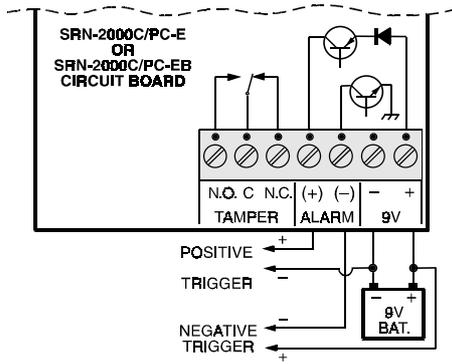

Figure 8. SRN-2000C/PC-E & -EB Wiring
- (2) Snap the battery clip onto a 9 Volt alkaline or lithium battery. The battery can be located in either the **SRN-2000C/PC** housing or the SRC-203AV back box.
- (3) Connect either the **N.C.** or **N.O. ALARM** contacts to the RF transmitter, according to the trigger signal required for transmitter activation.
- (4) Connect the anti-tamper terminals to the RF transmitter tamper input terminals (if available).
- (5) Seal all openings in the base with RTV to prevent insects and air currents from entering the unit.
B. Models SRN-2000C/PC-E and -EB (see Figure 8)
- (2) Snap the battery clip onto a 9 Volt alkaline or lithium battery. The battery can be located in either the detector housing or the SRC-203AV back box.
- (3) The **SRN-2000C/PC-E** and **-EB** have two open collector transistor alarm outputs (see Fig. 8). The **ALARM (-)** terminal provides switched negative voltage on alarm and can be used to trigger transmitters activated by a negative pulse. The **Alarm (+)** terminal provides switched positive voltage on alarm and can be used to trigger transmitters activated by a positive pulse. Connect the transmitter trigger input to either: **ALARM (+)** and **9V (-)** terminals (positive trigger), or **ALARM (-)** and **9V (+)** terminals (negative trigger).
- (4) Connect the detector's anti-tamper contacts to the RF transmitter tamper input terminals (if available).